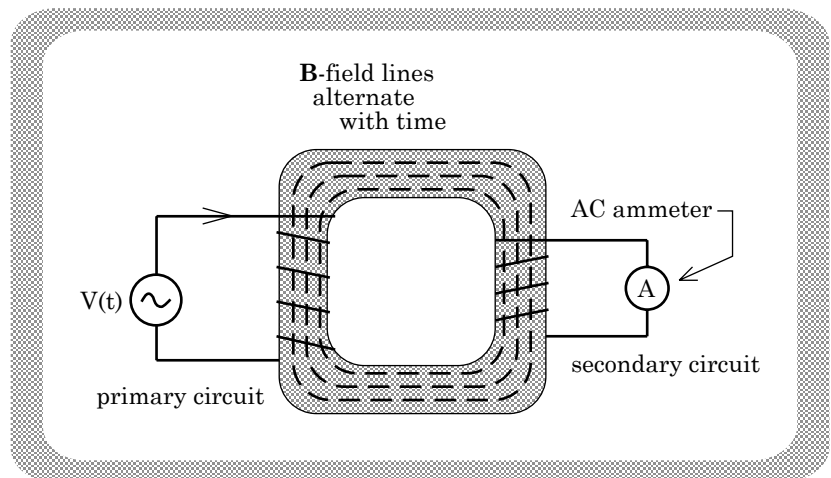

FIGURE 17.35
2.) With this in mind, consider what happens when an AC power supply is put in place of the DC power supply originally used in the transformer's primary circuit (see Figure 17.35).
Note: Putting an AC power source in place of the DC source in Figure 17.35 will additionally require changing the current-measuring device in the secondary circuit. Galvanometers are DC ammeters; we would need an AC ammeter.